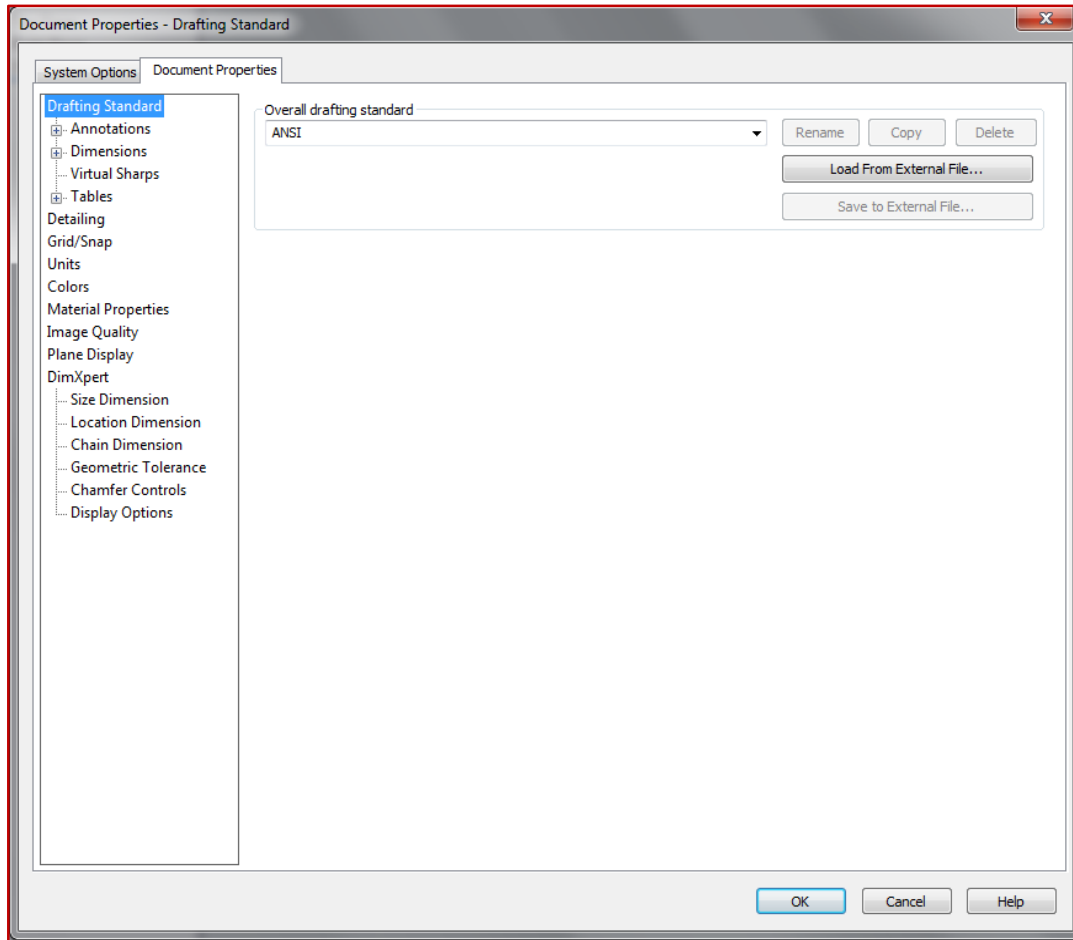

Figure 2.5 – Tools→Options→Document Properties
- ✓ Click the **Document Properties** tab and select **ANSI** in **Overall drafting standard**. See Figure 2.5.